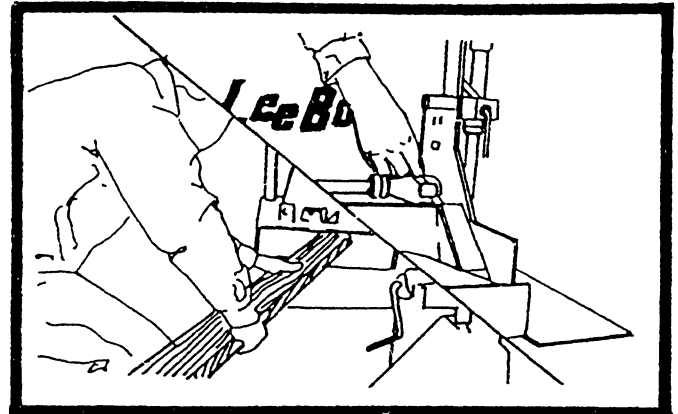

FIGURE 37
4. Clean screed insert. Remove screed insert by disconnecting extension cylinder and then pulling the screed straight out. See figure 37. (When needed)